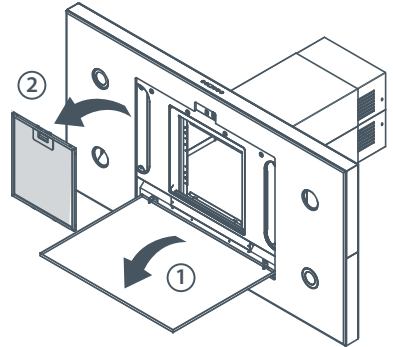

Fig.2 Removing the aluminium mesh filter
- 3 Unclip the magnetic stainless steel cover plate and gently lower it down (Fig.2).